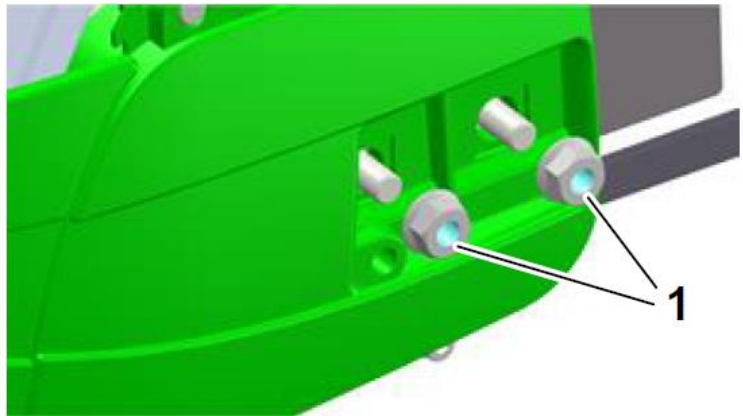
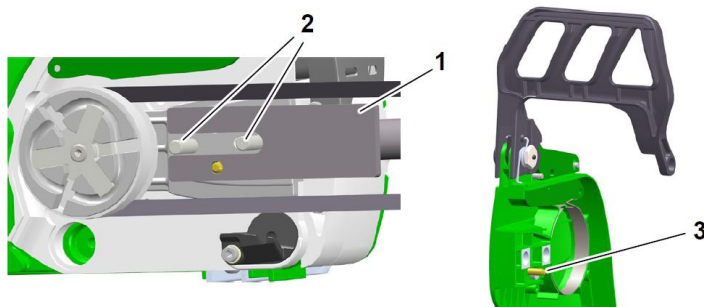

Fig. 3: Removing the V-belt cover
Fig. 4: Mounting the support and the V-belt
- > Replace the V-belt cover so that the pin in the cover (3) engages in the support (1) (see Fig. 4).
- > Insert the support (1 - Fig. 3) with the slot between the threaded pins (2 - Fig. 3).
- > The hole (3 - Fig.3) in the support must be located at the chain tensioner driver. Depending on the type of chainsaw, this is mounted on the motor side or in the cover (4 - Fig.3).
- > Insert the V-belt between the clutch drum (5 - Fig.3) and the V-belt pulley (1 - Fig.4).